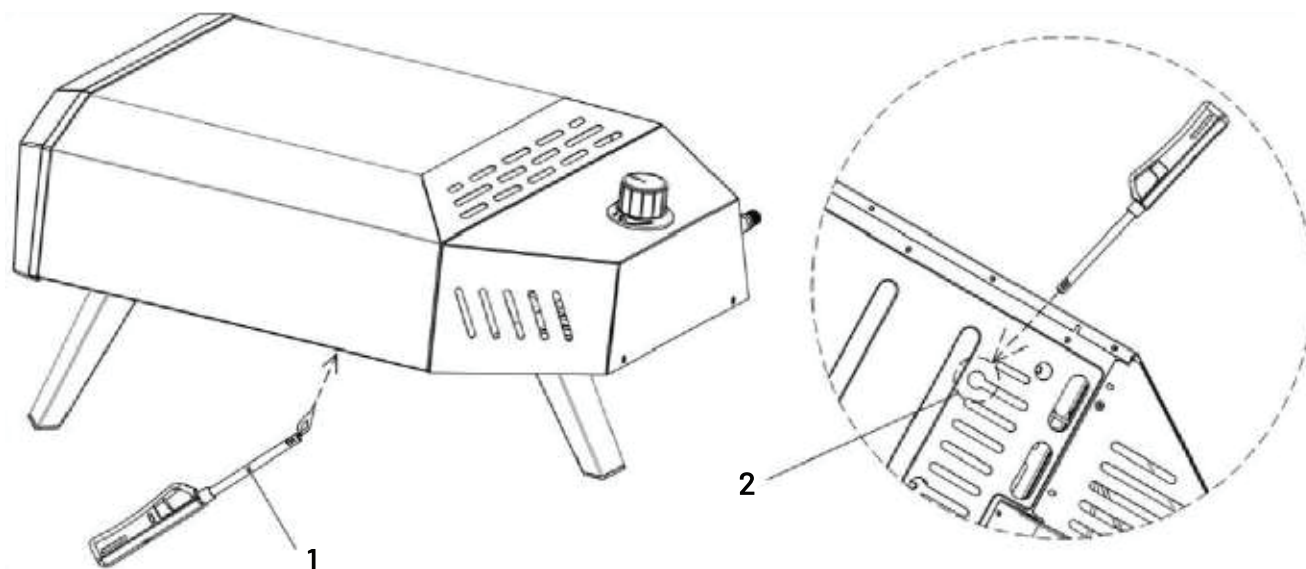

Figure 13
1. If the burner does not light after several attempts using the control knob, it can be lit with a fire lighter (1) as shown in Figure 13.
3. Turn on the fire lighter and position it close to the base, at position (2) in Figure 13.